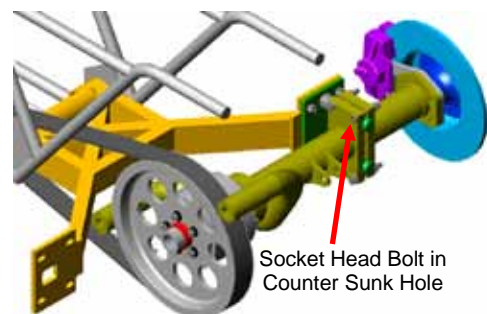

Figure 28
- c. Install Right Axle Housing (with drive pulley installed to differential) to the Axle Adjuster Mounted to the Swing Arm. Figure 28
- d. Install three 3/8"-24 x 2-3/4"L Hex Bolts, one 3/8"-24 x 2-1/2"L Socket Head Bolt, seven 3/8"SAE Flat Washers and four 3/8"-24 NyLoc Nuts to the Pinch Block. Loosely tighten hardware, as adjustments will be made later. Figure 28
- e. Place drive belt around rear pulley. Figure 28